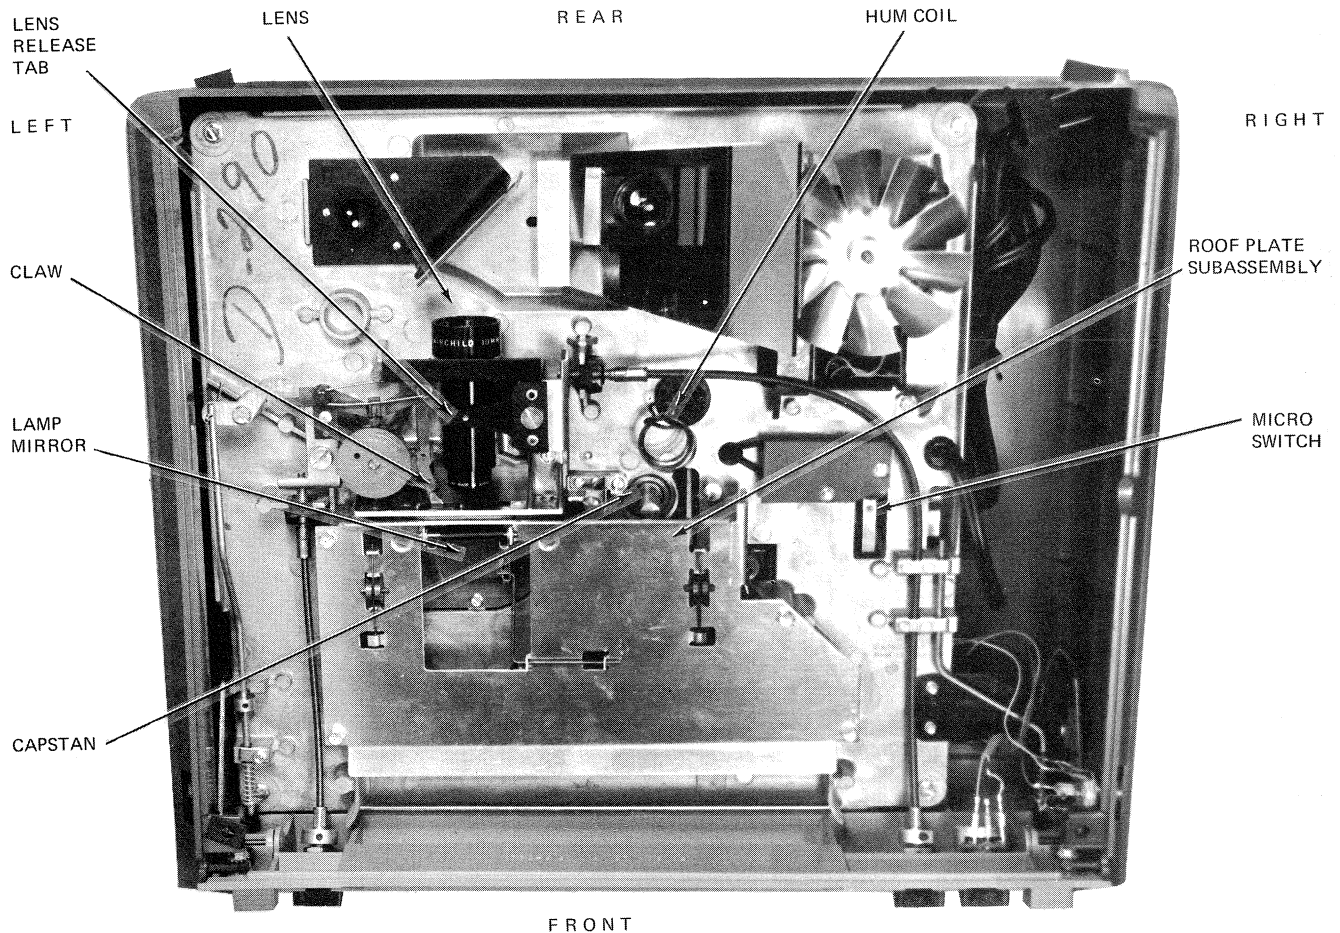

Figure 4-2. Seventy-21, Storage Tray and Lid Assembly Removed
- E. Raise the blue spring of the focus link assembly (see Figure 4-2) with your finger, then slide the lens toward the rear of the projector.